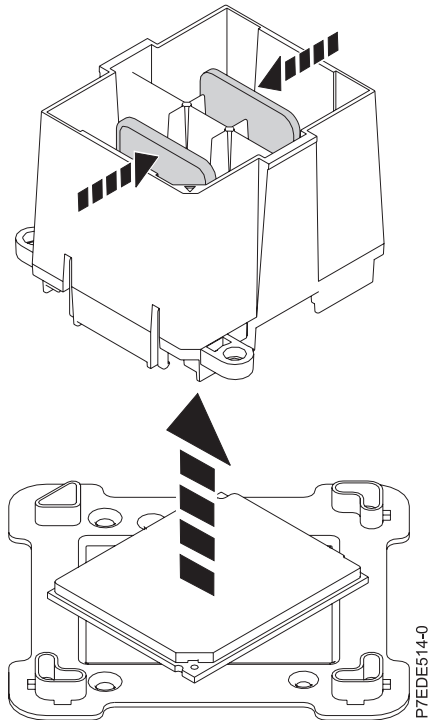

Figure 8. Releasing the system processor module from the tool
14. Squeeze the two tabs to release the system processor module from the tool. See Figure 8.